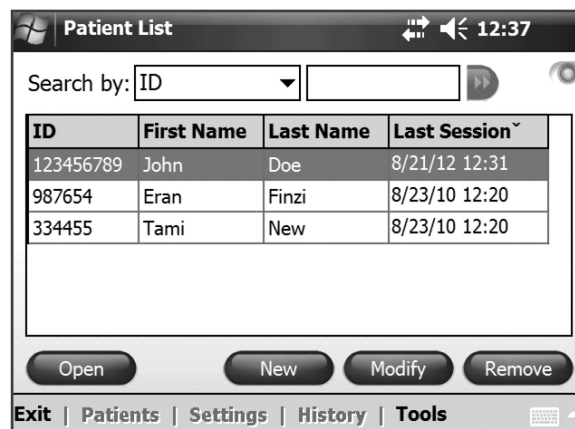

Figure 7-17: Patient List window.
1. Select a patient record from the patient list and press Open, or press **New** to create a new patient record. See Figure 7-17.